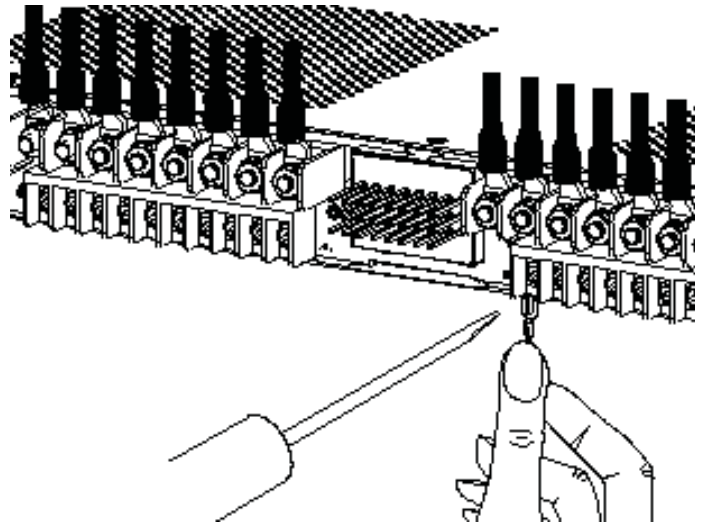

Figure 10 - GMT Output Lug Connections
32. Connect to the terminals, as shown in Figure 10.